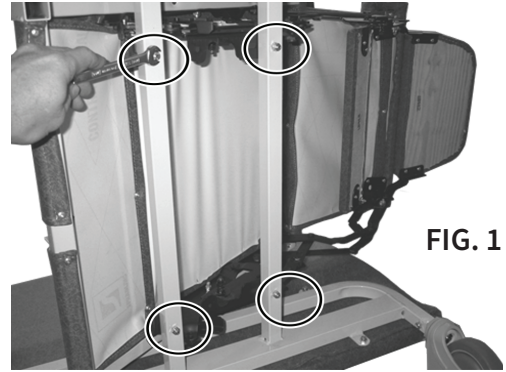

FIG. 1
4. Reattach the seat, legrest, mid-ottoman, and footrest to the new mechanism. Reassemble the seat and recliner mechanism assembly to the chair frame using four (4) new locknuts and the bolts that were previously removed (FIG. 1).